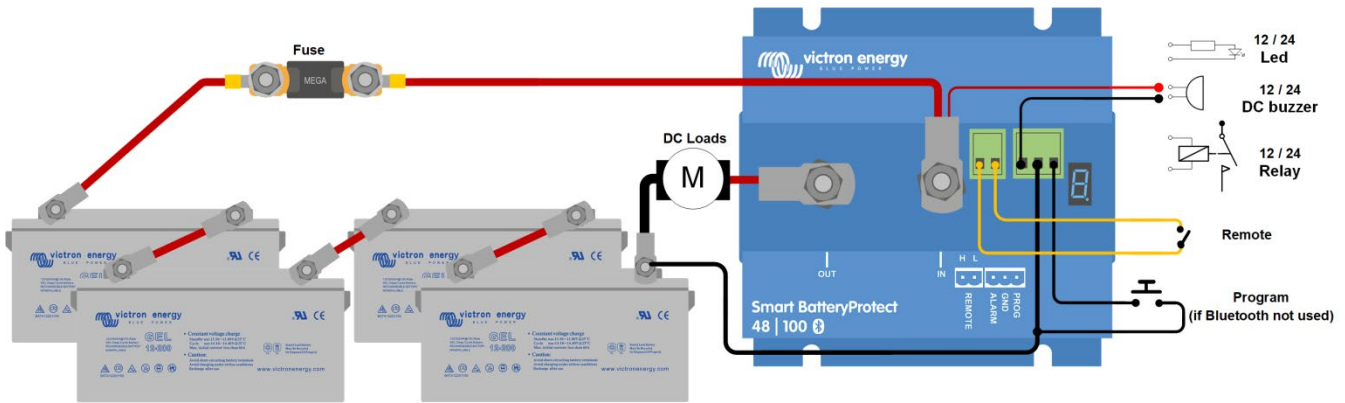

Figure 1 Connection diagram of the SBP 48|100 (use the remote input for system on/off functionality)
8. A remote on-off switch can be connected between Remote H and Remote L (see figure 1). Alternatively, terminal H can be switched to battery plus, or terminal L can be switched to battery minus.
9. A buzzer, LED or relay can be connected between the alarm output and the battery plus (see figure 1). Maximum load on the alarm output: 50 mA (short circuit proof).